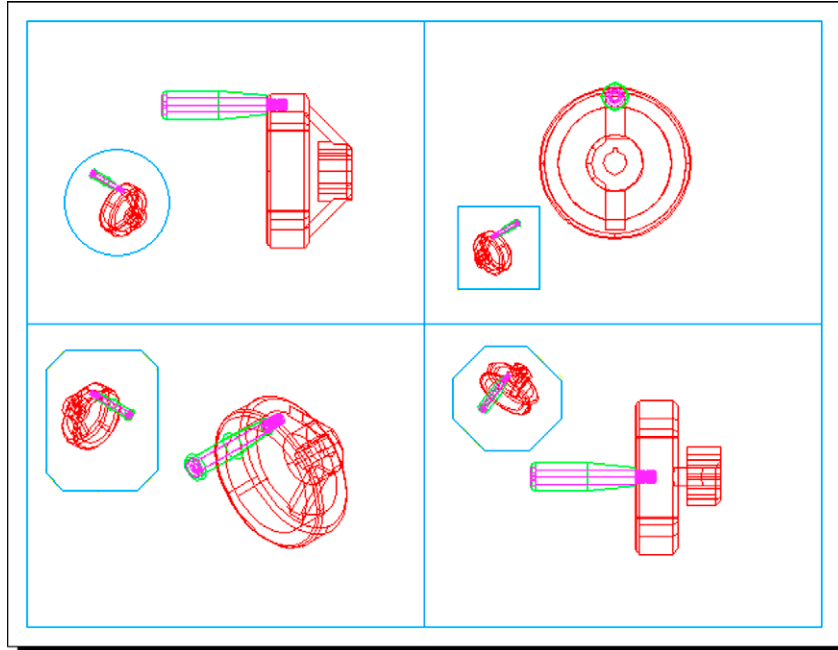
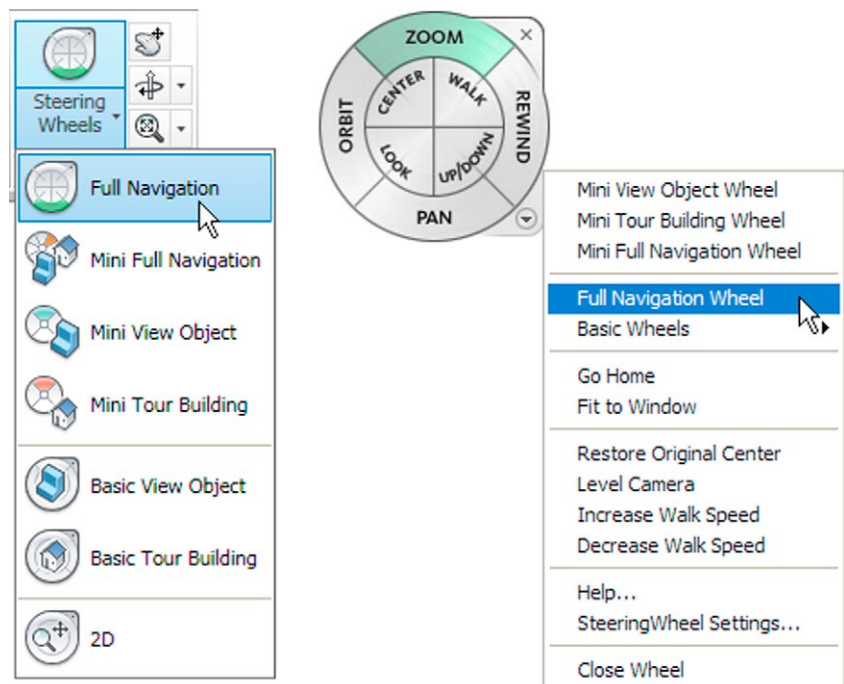

Fig. 19.14 Polygonal viewports – plot preview
Fig. 19.16 The Navigation Wheel
8. Repeat in each of the viewports with different shapes of polygonal viewport outlines (Fig. 19.14).
The **Navigation Wheel** can be called from the **View/Navigate** panel as shown in Fig. 19.14. The reader is advised to experiment with the **Navigation Wheel** (Fig. 19.16).